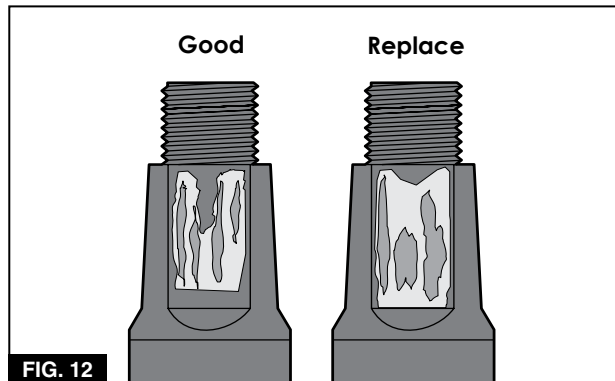

FIG. 12
1. Inspect the spindle flats for signs of a loose or worn crank arm. If the crank-arm marks on the spindle flats extend along the entire surface of the flats (**Figure 12**), the crank arm is worn. Replace it.